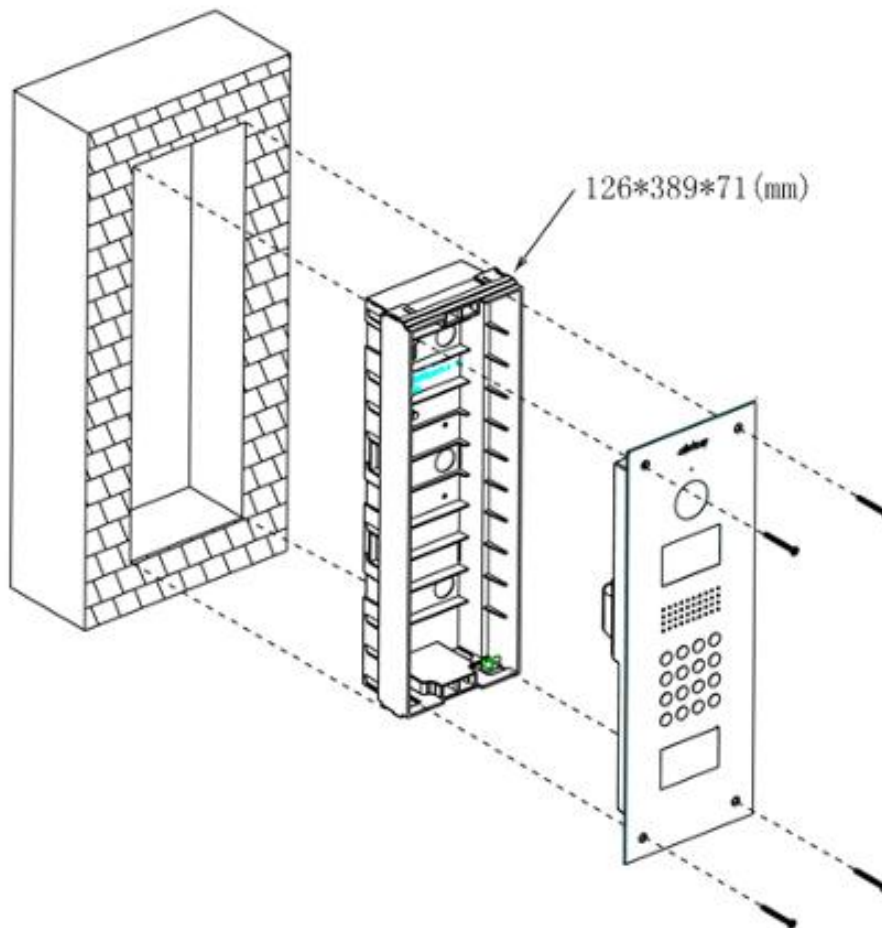

Figure 5-2
- b) Secure the device on the installation bracket. Use 4 M4×40 screws to fix. See Figure 5-2.